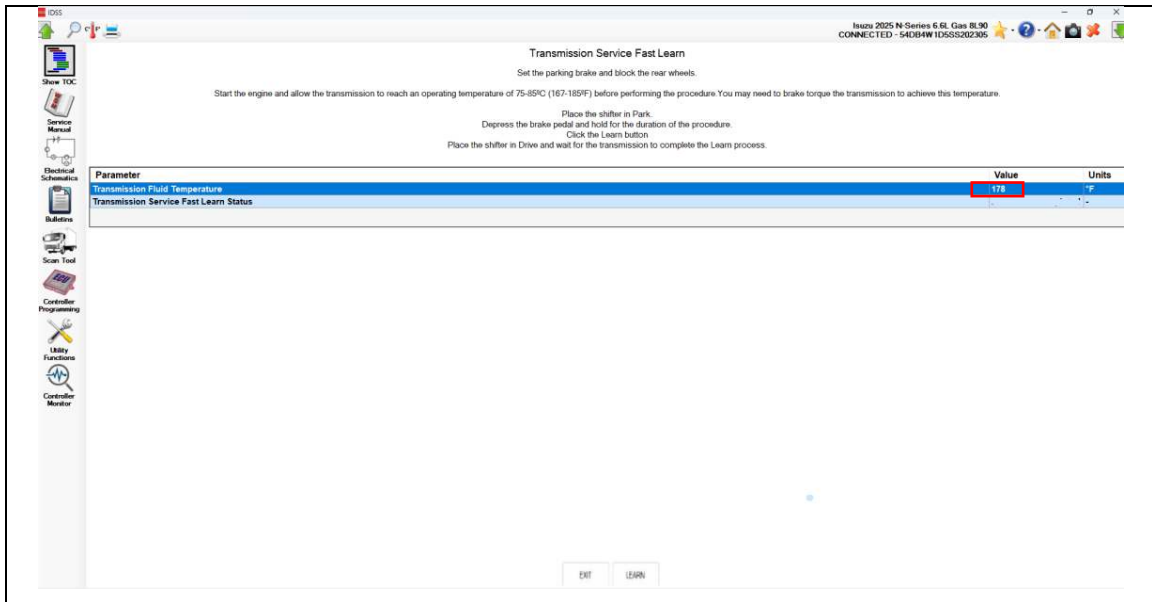

Figure 1
7. Using IDSS, go to: **Output Control Test > Transmission > Transmission Service Fast Learn** and confirm the transmission fluid temperature is between 167°F (75°C) and 185°F (85°C) (See Figure 1.)